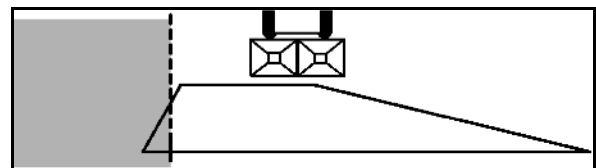

Fig. 78
- Read the value to be set from the setting chart (Fig. 78).